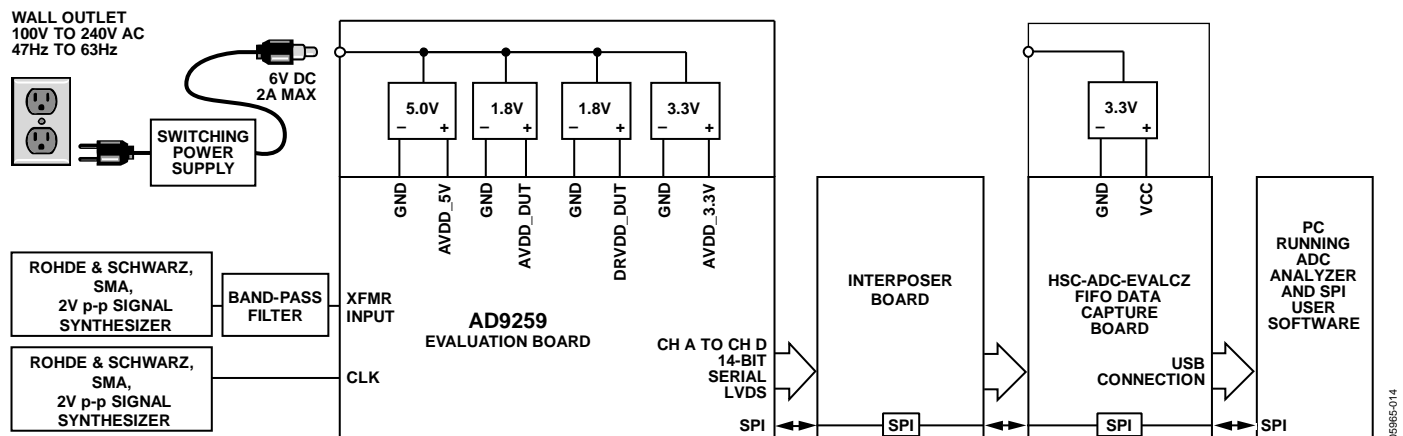
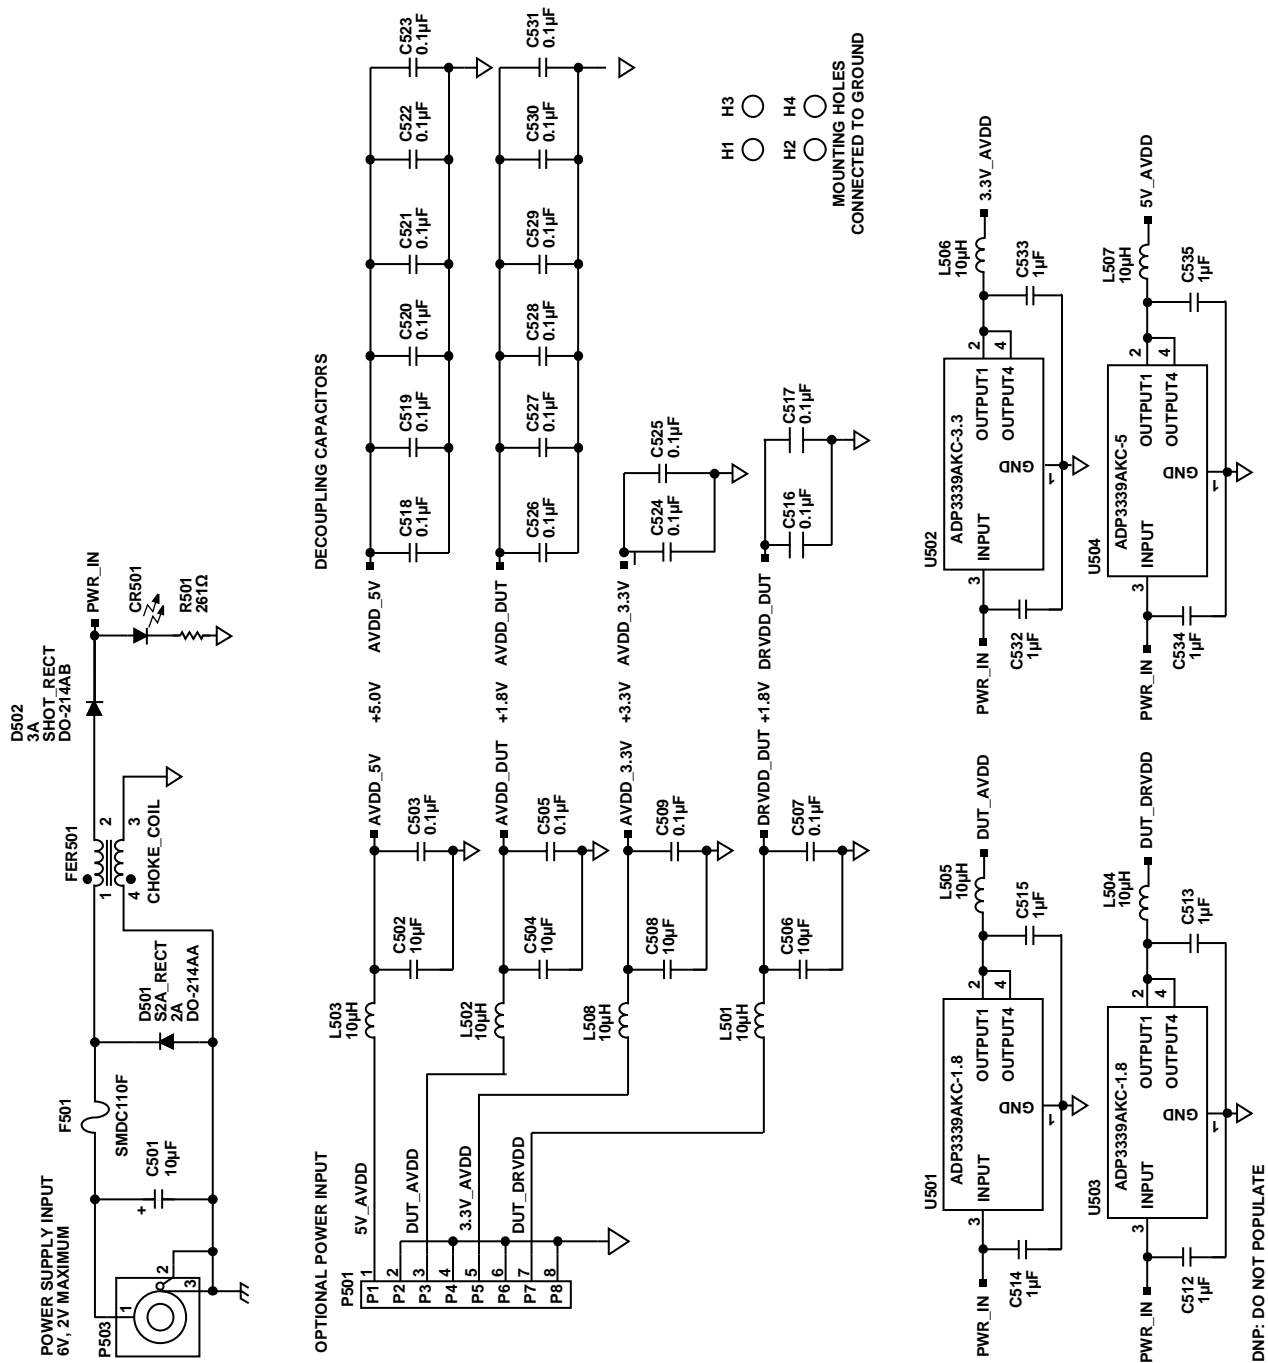

Figure 60. Evaluation Board Connection
Figure 66. Evaluation Board Schematic, Power Supply Inputs
The AD9259 evaluation board provides all of the support circuitry required to operate the ADC in its various modes and configurations. The converter can be driven differentially using a transformer (default) or a AD8332 driver. The ADC can also be driven in a single-ended fashion. Separate power pins are provided to isolate the DUT from the drive circuitry of the AD8332. Each input configuration can be selected by changing the connection of various jumpers (see Figure 62 to Figure 66). Figure 60 shows the typical bench characterization setup used to evaluate the ac performance of the AD9259. It is critical that the signal sources used for the analog input and clock have very low phase noise (<1 ps rms jitter) to realize the optimum performance of the converter. Proper filtering of the analog input signal to remove harmonics and lower the integrated or broadband noise at the input is also necessary to achieve the specified noise performance.
- **D + x, D - x:** If an alternative data capture method to the setup shown in Figure 60 is used, optional receiver terminations, R206 to R211, can be installed next to the high speed back-plane connector.